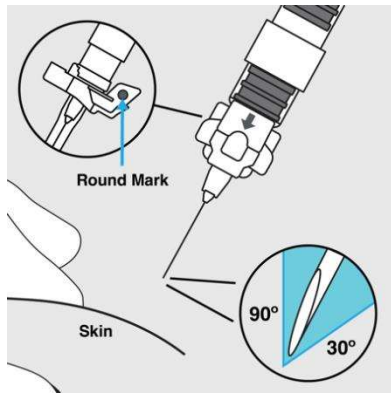

Figure 17: Pinch skin and insert needle
- a. Pinch a 2.5cm section of skin between your fingers and insert needle at a 30° - 90° angle. Before inserting the needle, check the orientation of the safety device. The arrow on the safety device should be pointed towards the patient, with the round mark directed upward. (Figure 17)